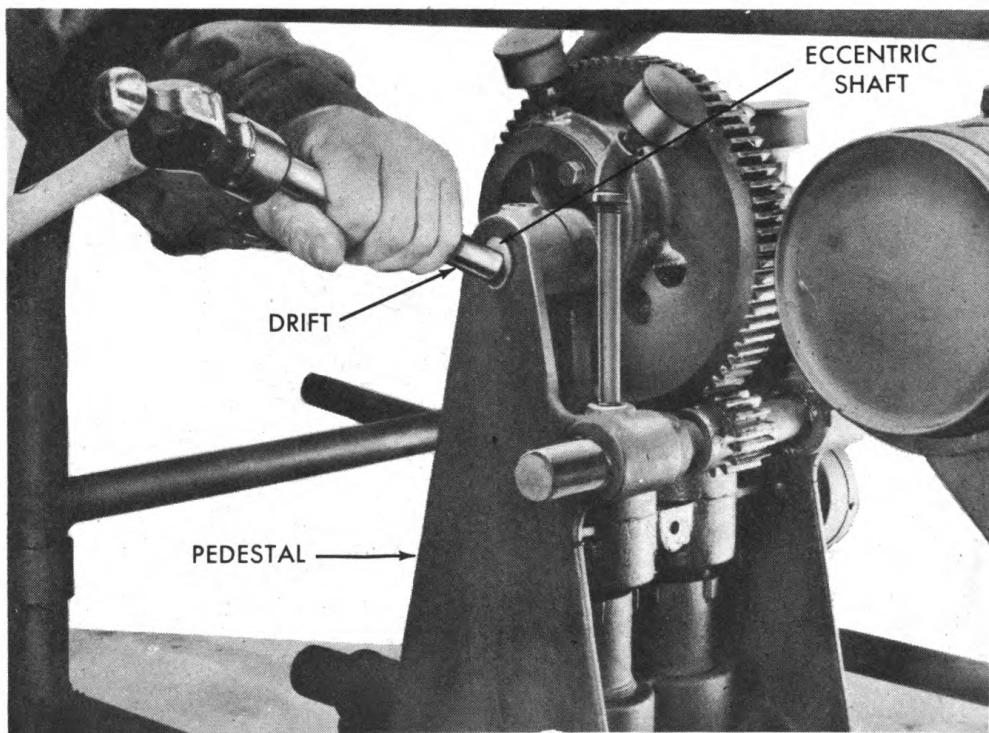

Figure 34—Removing Eccentric Shaft
- (1) Remove three gear guard retaining cap screws and lock washers; then lift off gear guard.
- (2) Unscrew and remove lock nuts and set screws; then using a brass drift and hammer, drive out and remove eccentric shaft. (See figure 34.)
- (3) Remove eccentric, eccentric straps, cross heads, and plungers as an assembly. This will require a strong upward pull. (See figure 34.)
- (4) Lay assembly on a bench; then using a monkey wrench, unscrew and remove the plunger nuts. (See figure 34.)
(5) Remove worn plunger cups and replace with new. Position new cups in a manner that will bring the convex surface of the cups in contact with the concave ends of the cross heads.
(6) Install plunger nuts.
(1) Remove three gear guard retaining cap screws and lock washers; then lift off gear guard.
(2) Unscrew and remove lock nuts and set screws, then using a brass drift and hammer, drive out and remove eccentric shaft. (See figure 34.)